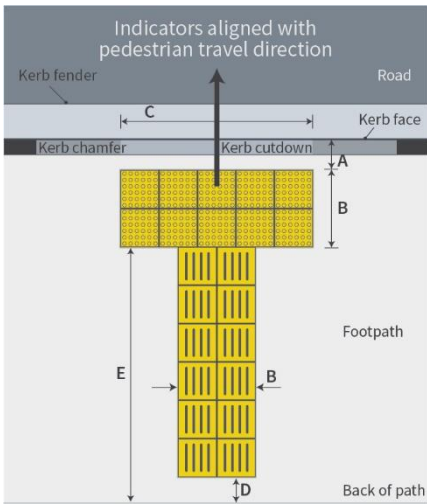

Figure 1: Typical Tactile Indicator Layout
- Install the directional indicators so they lead the user to the centre of the crossing (see Figure 1) or to the side where the push button is located at traffic signals (see Figure 2).
Table 1 and Figures 1 and 2 below outline the typical layout and dimensions for tactile indicators at a crossing or intersection.